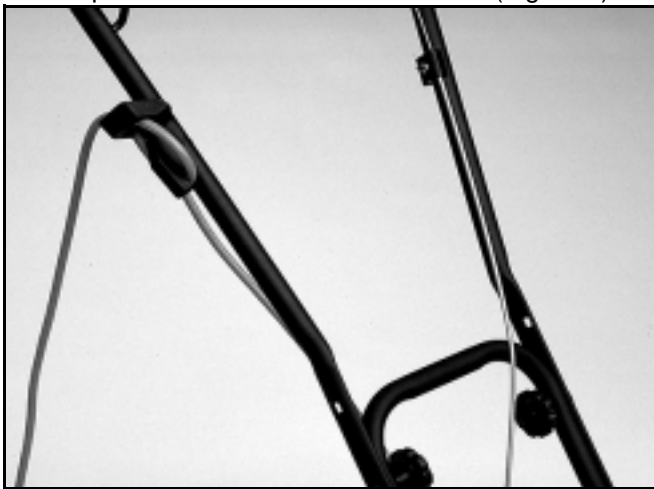

Figure 2
12. Properly connect extension cord to mower in order to prevent disconnection of the cord (Figure 2).